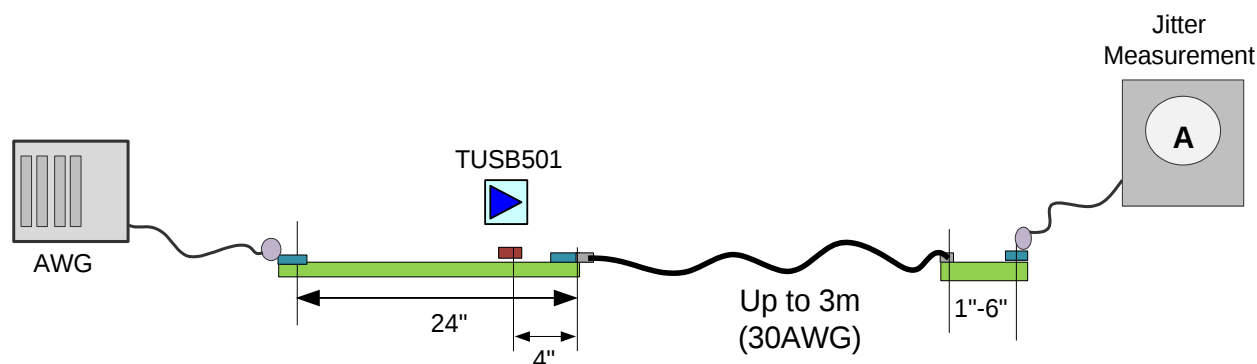

Figure 1. Jitter Measurement Setup
(1) Includes R_j at 10^{-12} .
(2) Measured at the ends of reference channel in Figure 1 with K28.5 pattern, $V_{\text{ID}} = 1000 \text{ mV}_{\text{pp}}$, 5 Gbps, -3.5 dB de-emphasis from source.
(3) UI = 200 ps.
(4) R_j calculated as 14.069 times the RMS random jitter for 10^{-12} BER.